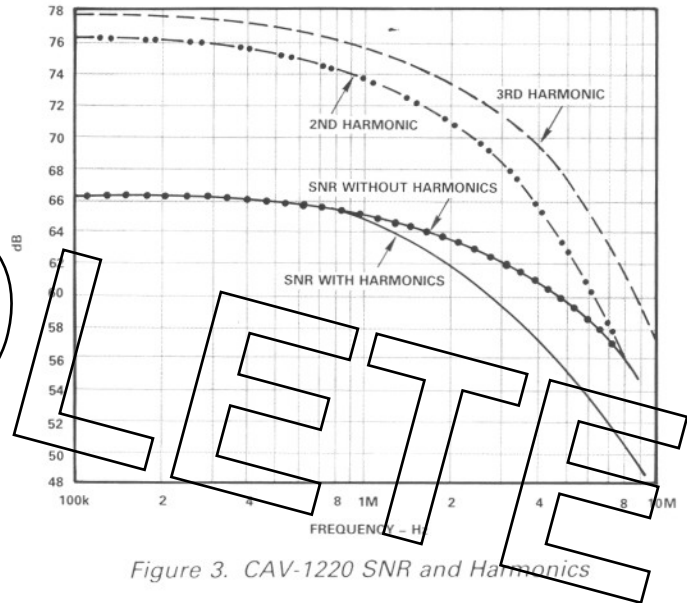

Figure 3. CAV-1220 SNR and Harmonics
- Rms signal to rms noise ratio with full-scale 540kHz analog input (see Figure 3).
Figure 3 shows typical performance on some of the dynamic characteristics which play an important role in the performance of systems using the CAV-1220 A/D converter.